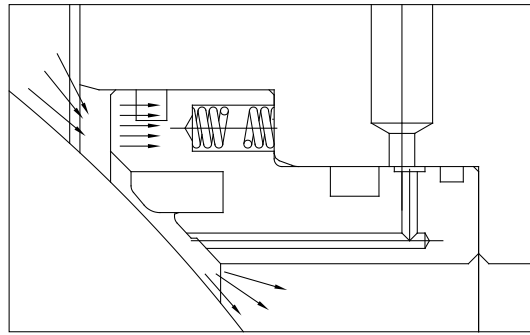

Figure 4. Automatic Body Pressure Relief Schematic
- **Automatic Body Pressure Relief**— Seats will internally relieve excess body pressure. See Figure 4.